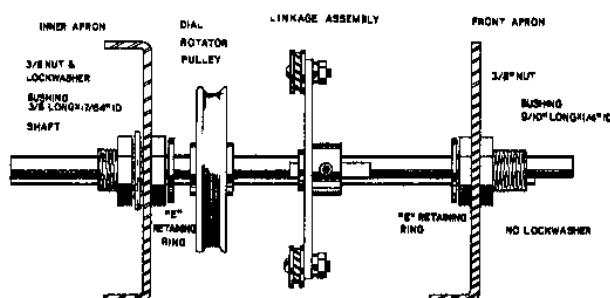

Figure 34
- () Locate the band switch shaft. This is the shaft with two flats on it. Refer to Figure 34. Mount a 9/16" long shaft bushing with a 1/4" ID at hole F as was done at hole E. Insert from the rear of the front apron and secure temporarily with a 3/8" nut. Slide the end of the band switch shaft with the plain end through the bushing F from the front, then through the hub of the dual link arm. (At this time, slip the single link arm on the end of the short link over the exciter band switch shaft FD). See Pictorial 23. Slip the 1 1/4" string pulley on the end of the band switch shaft, hub first, then slide the shaft on through bushing FH on the inner front apron. Position the shaft until both grooves are visible between the shaft bushings, then insert an E retaining ring in each groove.